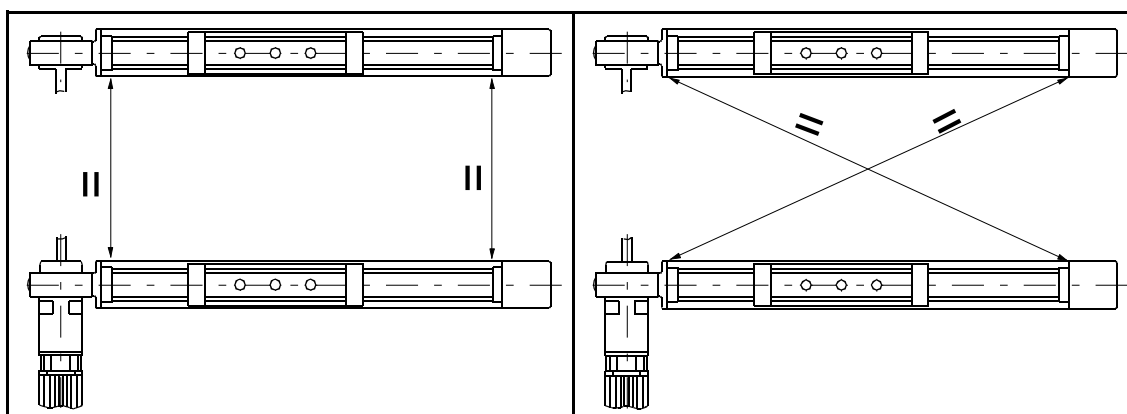

Figure 1: Aligning a dual actuator
5. Measure the parallelism (e.g. by tape measure) (see Figure 1).
6. Measure both diagonals to check that it is square (tape measure) (see Figure 1). If necessary, correct the diagonal measurement by parallel movement of the second actuator.